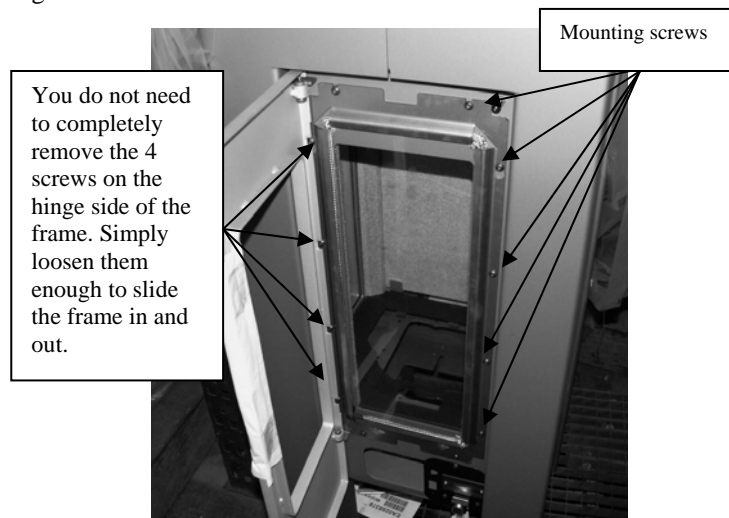

Figure 14: Glass frame mounting screws
2. Remove the 12 mounting screws (*see figure 14*) that attach the frame and glass to the firebox. (Be careful as you remove the last screws, as the frame will be loose and will want to fall)